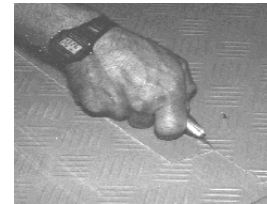

Fig 6
- Place a scrap piece of flooring between the top and bottom sheets and cut the top sheet, along the scribe line, with a sharp utility knife (**Fig. 6**).